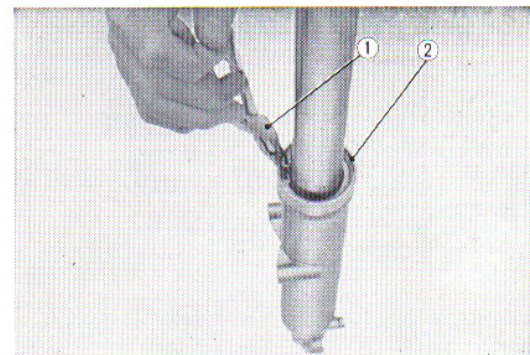

Fig. 4.19 Removing the 47mm circlip
5. Remove the front boot (CB 450: front fork under cover), front cushion spring and then remove the 47mm internal circlip using the snap ring plier. Pull out and disassemble the front fork bottom pipe and the front fork pipe assembly. (Fig. 4.19)